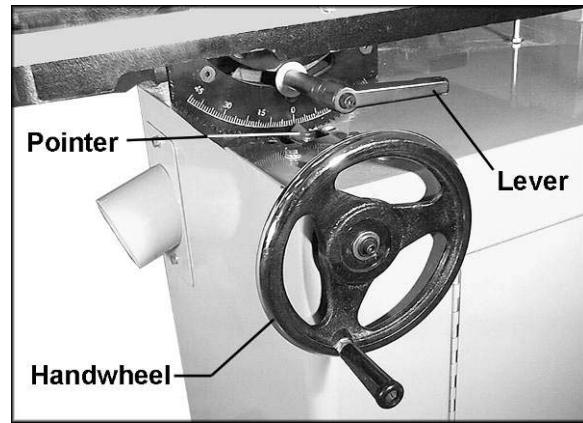
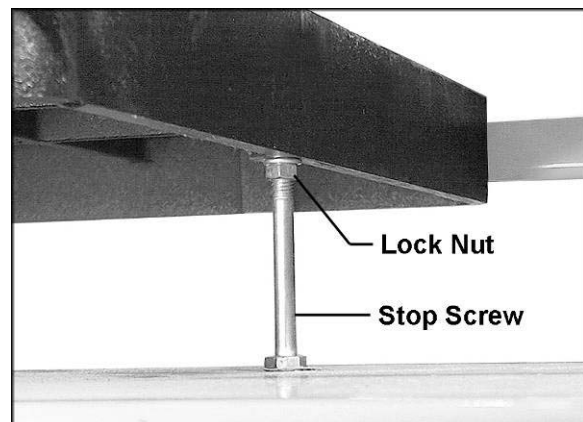

Figure 10
Figure 12
1. Loosen the lever (Figure 10).
2. Rotate the handwheel (Figure 10) clockwise to tilt table up to 45 degrees to the right, or counterclockwise to tilt the table up to 10 degrees to the left (as viewed from the operator's position).
NOTE: If you tilt the table to the left, you must first remove the stop screw from the machine, shown in Figure 12.
3. Tighten the lever (Figure 10).
NOTE: The lever, shown in Figure 10, can be pivoted so that it doesn't contact the band saw surface. Simply lift straight out on the lever and rotate it on the pin, then release it making sure it seats itself on the pin.
The 90° stop, shown in Figure 12, ensures the table will always be perpendicular to the blade after the table is returned to horizontal position.
2. Loosen lever (Figure 10) and tilt table left until the stop screw rests against the metal platform of the Band Saw, as shown in Figure 12.
4. If table and blade are not square, loosen lock nut (Figure 12) with a 14mm wrench, and turn the head of the stop screw with a 17mm wrench. Turn the screw as needed until there is no longer light showing between the square and the blade.
5. Tighten lock nut (Figure 12) to secure the table stop in position.
6. Tighten the lever (Figure 10).
7. Check that the scale pointer (Figure 10) is at zero. If necessary, loosen the screw on the pointer and shift the pointer to zero. Tighten the screw.